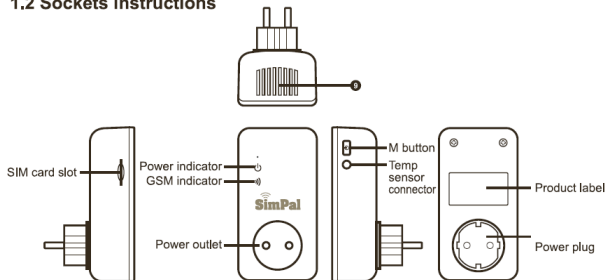

Figure 1: SimPal-T4 instructions
2. Insert the plug of electronic appliance in the SimPal-T4 electrical outlet (See 3 on Figure1).
3. **M button** (See 5 on Figure1) can be pressed for about one second to switch on or off the output of socket.
Method 1: To press **M button one second** (See 5 on Figure1).